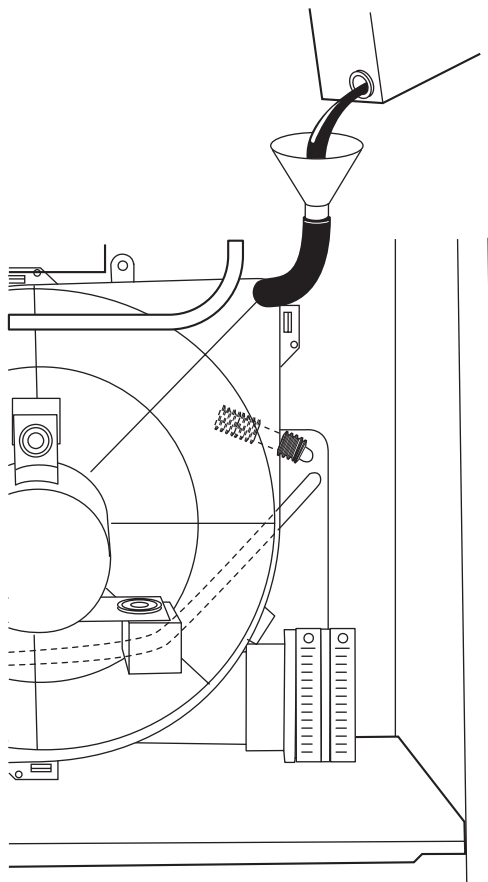

Fig. 49—Filling Condensate Trap
4. Pour 1 quart of water into funnel/tube. Water should run through inducer housing, overflow condensate trap, and flow into open field drain. (See Fig. 49.)